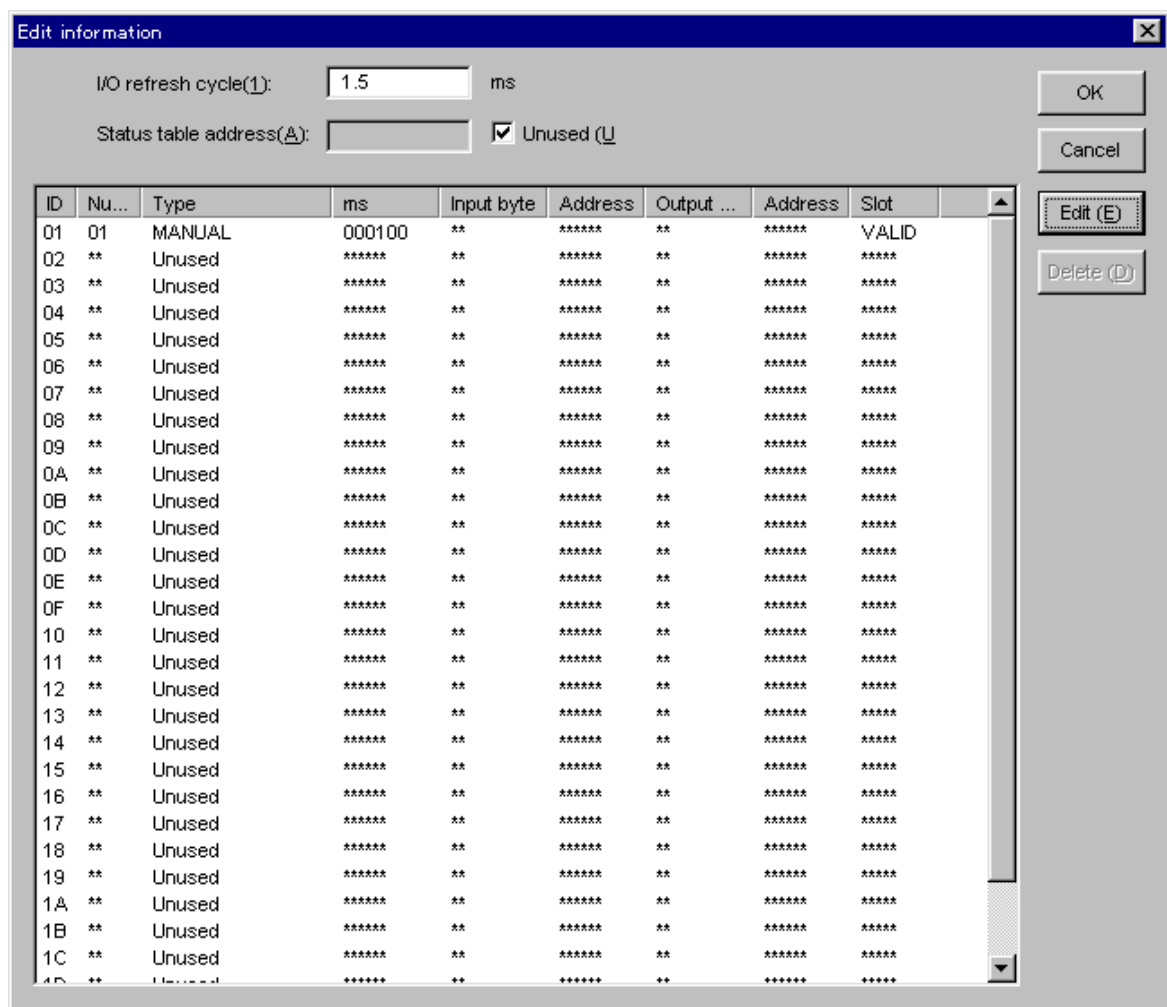
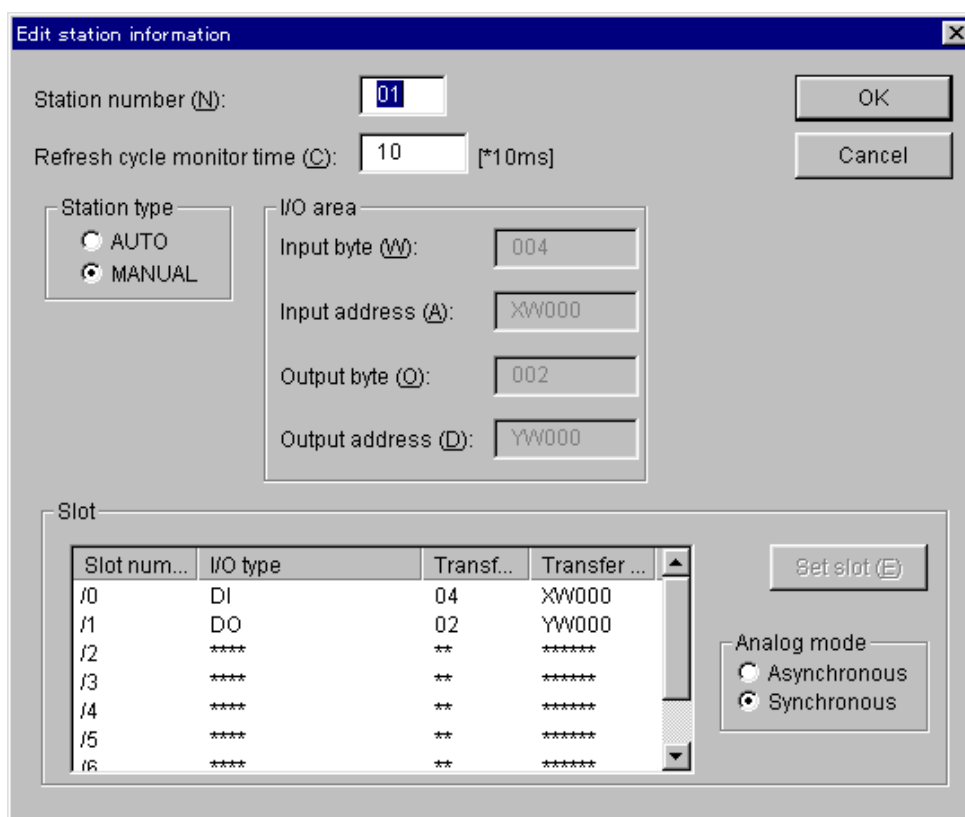
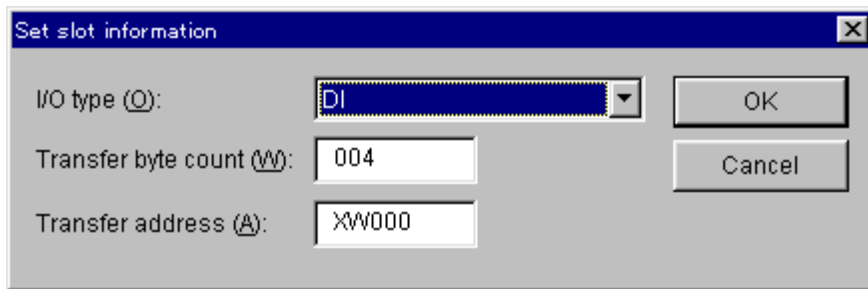

Figure 3-1 [Edit information] Window
Figure 3-2 [Edit station information] Window
Figure 3-3 [Set slot information] Window
- (5) To define input/output between each station, highlight the “ID” (see Figure 3-1) to be edited then click the button.
- (6) The [Edit station information] window is displayed.
- (8) After completing the entire setting, click on the **OK** button on the [Edit information] window (Figure 3-1). Click the **Cancel** button if there is no change. When the **OK** button is clicked, the information edited on the [Edit information] window, [Edit station information] window (Figure 3-2), and [Set slot information] window (Figure 3-3) will be written into the memory of the IR.LINK module of PCs. If the **Cancel** button is clicked, [Edit information] window will be closed without information being saved.